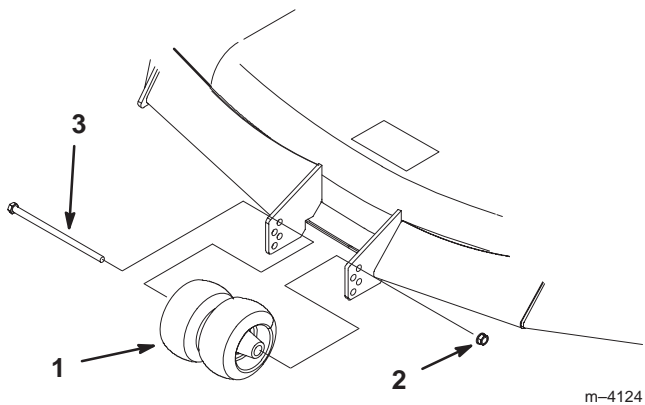

Figure 20
2. After adjusting height-of-cut, remove bolt and nut (Fig. 20).
3. Select hole so gage wheel is positioned to the nearest corresponding height-of-cut desired (Fig. 20).
4. Reinstall the bolt, center rollers and nut (Fig. 20).